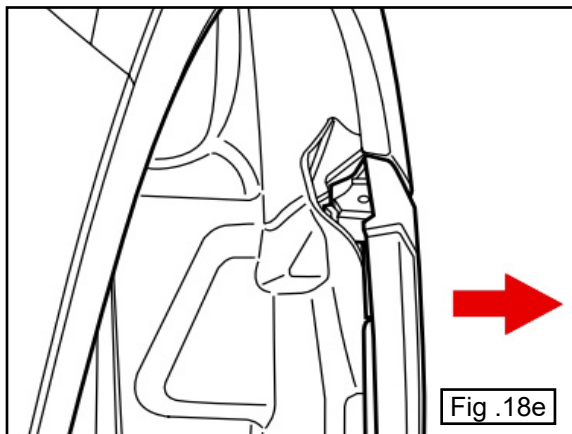

Fig .18e
10. Using a small tool, slightly open the retainer clip and carefully pull front fascia from the clip retainer. Perform on both sides (Fig.18e and Fig.18f).